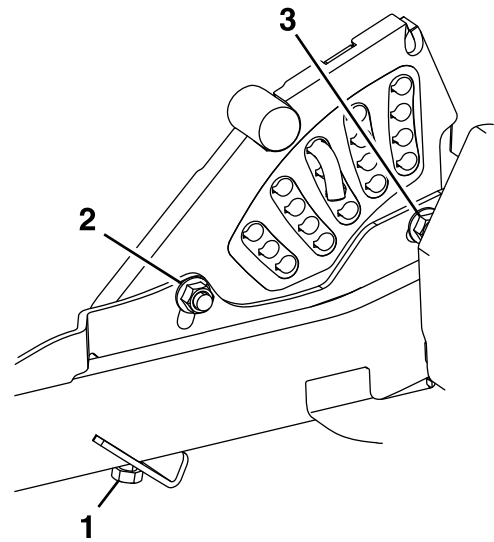

Figure 83
13. If the 4 deck adjusters do not have enough adjustment to achieve the accurate height of cut with the desired rake, you can adjust the single-point system (Figure 83).
14. To adjust the single-point system, first loosen the front and rear height-of-cut plate mounting bolts (Figure 83).
16. Tighten the 2 bolts at the bottom of the height-of-cut plate (Figure 83).